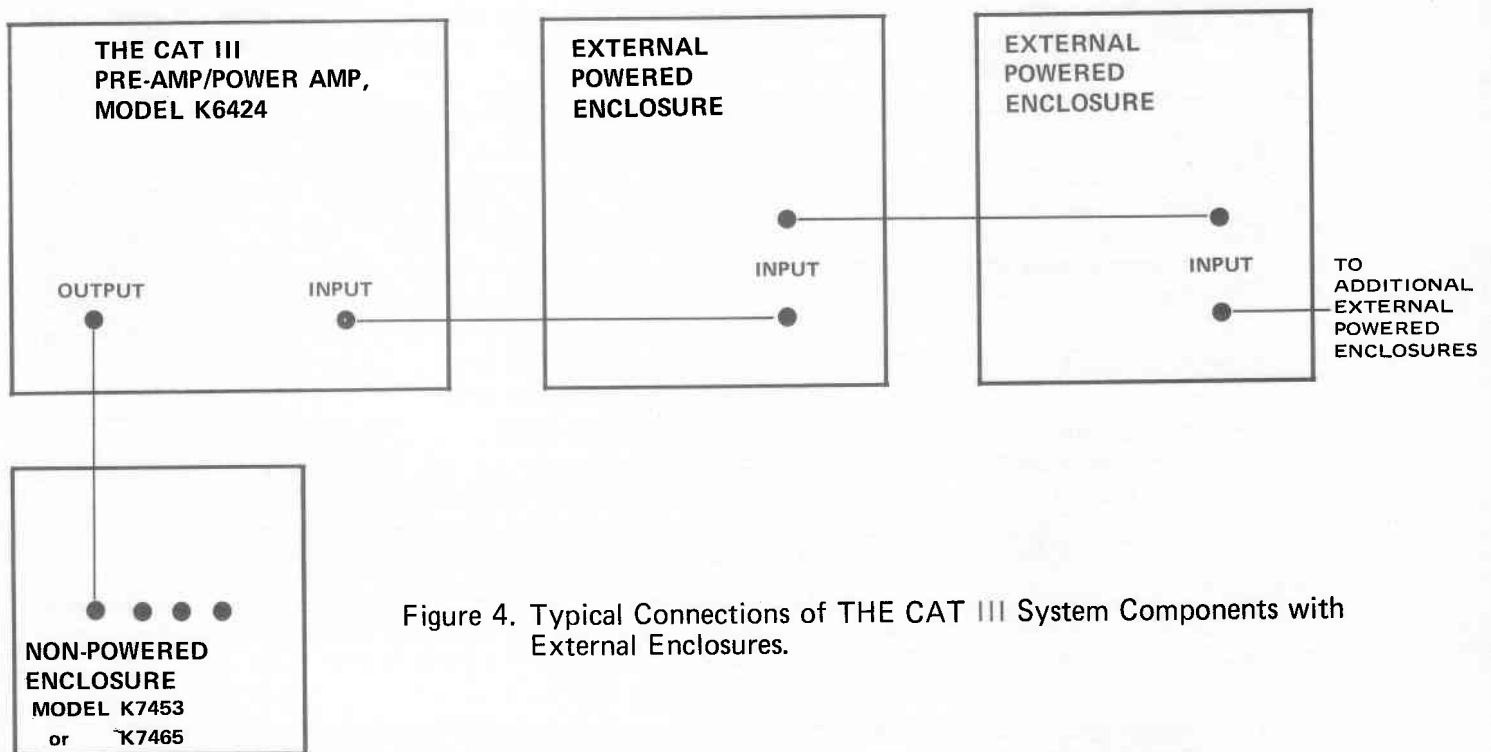

Figure 4. Typical Connections of THE CAT III System Components with External Enclosures.
- M. **INPUT JACK (GREEN)** — The green INPUT jack allows more than one external powered enclosure to be connected in parallel (with standard 1/4 inch phone plugs and shielded cords) for increased output. To make these connections, first connect the amplifier INPUT jack (green) to the green INPUT jack of the first external powered enclosure as shown in figure 4. If a second external powered enclosure is to be connected, make a connection from the remaining green input jack on the first external enclosure to the green INPUT jack of the second enclosure. Connections to additional powered enclosures can be made by repeating this sequence.
- N. **OUTPUT JACK (RED)** — The red OUTPUT jack is required to drive speaker K7463 or K7465, and any other unamplified speakers or Ovation Freq-Lites (see figure 4). The red OUTPUT jack will accept a standard 1/4-inch phone plug with heavy, unshielded cord.
- Q. **OUTPUT JACKS (RED)** — Four red output jacks are provided on the rear of the cabinet. One jack is used to connect the speaker enclosure to the red **OUTPUT** jack on the pre-amp/power amp; the remaining jacks may be used to connect additional external unpowered enclosures as shown in figure 4. Use a standard 1/4-inch phone plug with heavy, unshielded cord to make connections.